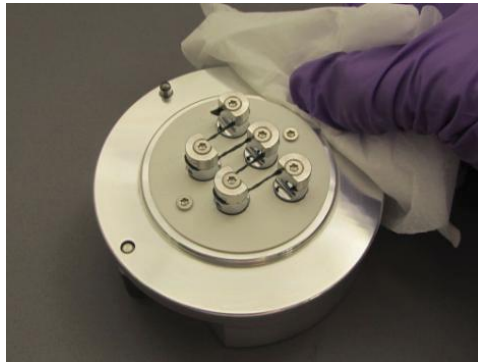

Figure 3. Threading the Carbon Thread
9. Tighten the 3 remaining screws and trim thread on both ends as shown in Figure 3, below.